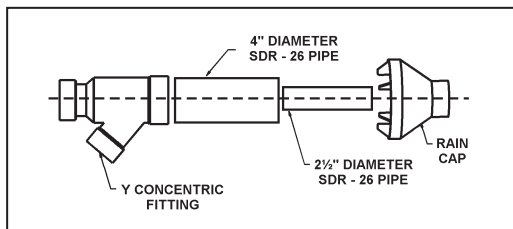

Figure 24
- Cement Y concentric fitting to larger diameter kit pipe, see Figure 24.
NOTE: If assembly needs to be extended to allow side wall thickness requirement, the 2 pipes supplied in the kit may be replaced by using same diameter, field-supplied SDR-26 PVC (D2241) pipe. Do not extend 21 1/8" (53.6 cm) dimension more than 60" (1.5 m). See "Figure: 24".